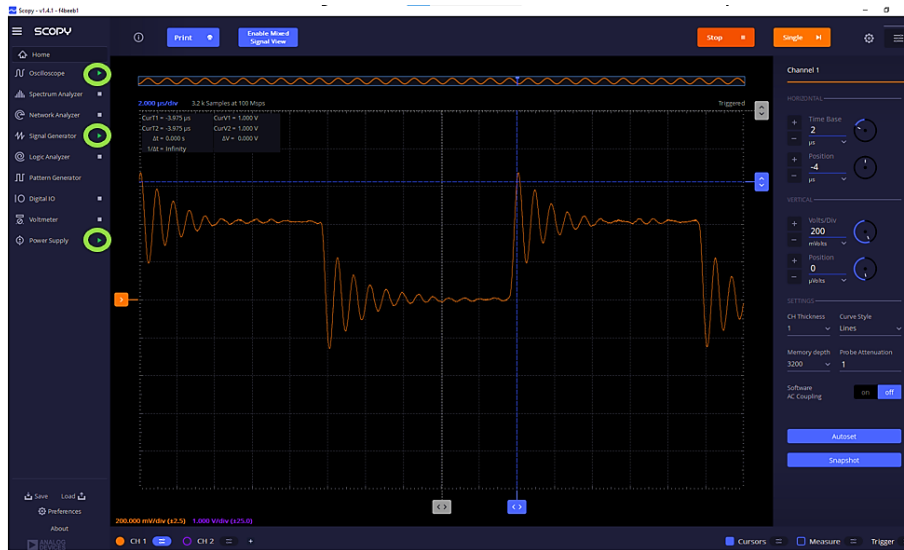

Figure 18. Expected Channel 1 Output Waveform – J1 Jumper Removed
4. **Remove** the jumper installed on **J1 (Main board)**. This configures the operational amplifier as a TIA without a compensation or feedback capacitor. **Enable/Turn on** the power supply, signal generator, and oscilloscope on Scopy in order by clicking the **triangle buttons** on the **Instruments Menu** as shown in Figure 18. After this, the LED on the LED carrier board should be visibly glowing **RED**, and, on the oscilloscope's Channel 1, a waveform similar to what is shown in Figure 18 should be observed.